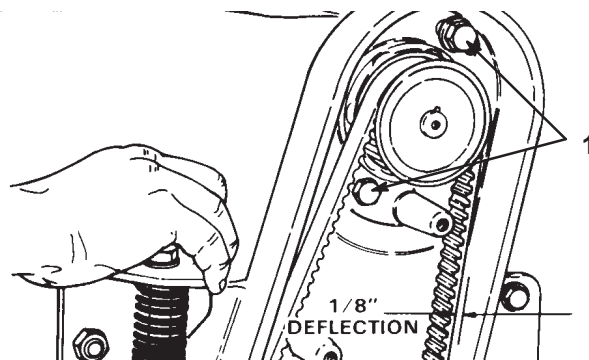

Figure 12
4. Insert the 2 reel drive motor mounting bolts (heads on inside of the drive housing—flat washer on top bolt) through the reel motor flange holes. Thread the locknuts onto the bolts. Rotate reel motor upward in the slotted hole in the housing to tension the drive belt and tighten the fasteners (Fig. 12) to approx. 25 ft. lb. (34 N-m).
Note: Proper belt tension is achieved when belt deflects approximately 1/8 in. (3 mm) at mid-point when 7 lb. of force is applied. (Fig. 12).